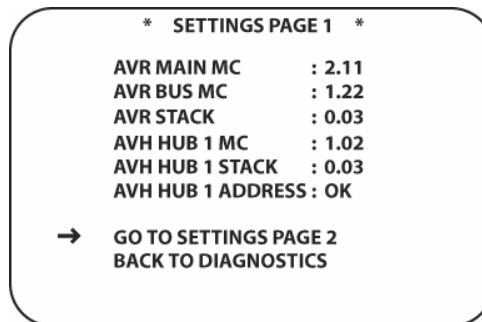
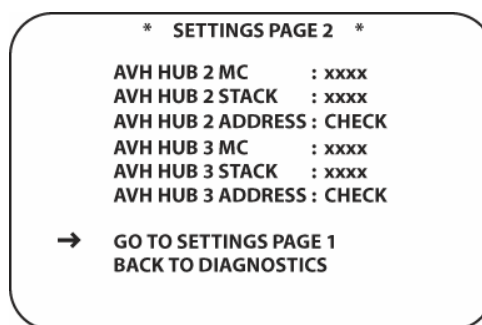

Figure 120 System Settings Page 1
Figure 121 System Settings Page 2
If a system only has one AVH21 A/V Hub, the Settings screens should appear as shown in **Figures 120 & 121**. The values associated with AVH Hubs 2 & 3 will appear as shown in **Figure 121**, indicating no connection. If a second or third AVH21 is connected and the **SETTINGS PAGE 2** screen does not populate with values indicating confirmation of connections and communication, check connections between AVH21 Hubs and AVH power connections to find the problem. If problem persists, see Section: **Multiroom Troubleshooting Guide**.
4. With the cursor next to **SETTINGS**, press the **Set Button**. The **SETTINGS PAGE 1** screen will appear. (**Figure 120**)
5. To view Page 2, with the cursor positioned next to **GO TO SETTINGS PAGE 2**, press the **Set Button [oval 18]**. **SETTINGS PAGE 2** will appear. (**Figure 121**)